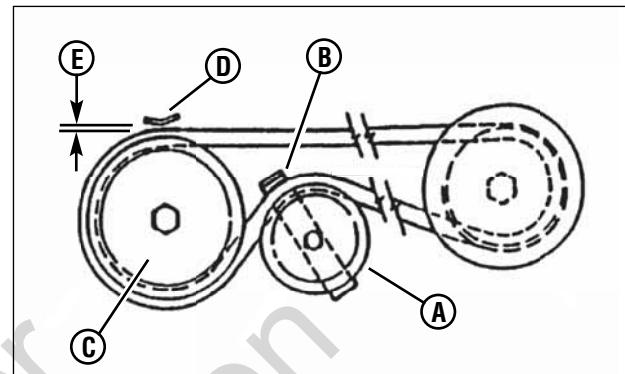

Figure 45: Belt routing for 28 and 30 inch decks
7. Remove the idler (A, **Figures 45 and 46**).
8. Route the belt onto the spindle pulley (C). Make sure the belt is inside the spindle belt guide (D) and the idler belt guide (B). Route the belt as shown.
10. Adjust the belt guide to allow 1/16" belt-to-belt guide clearance (E).